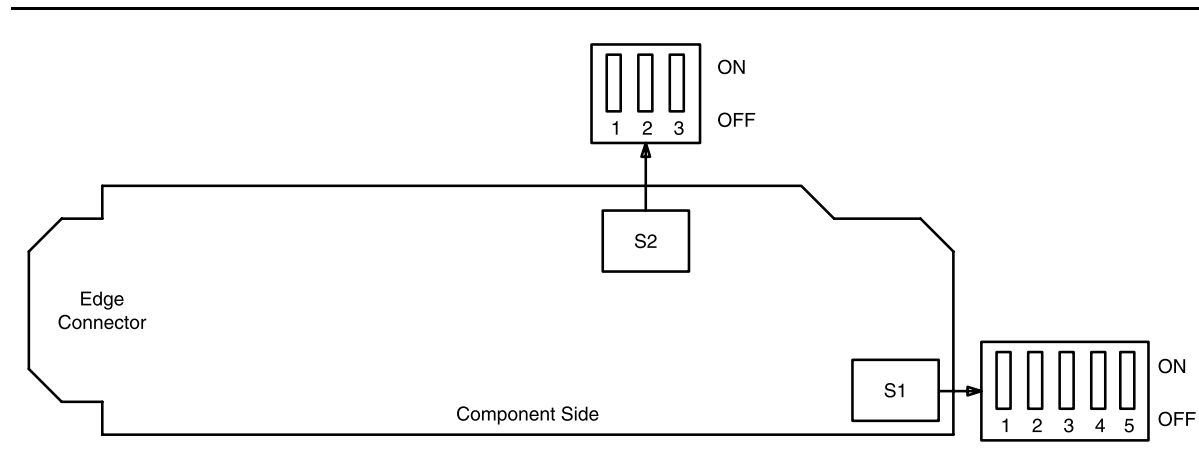

Figure 2 – BBF2B/BBF2C TGS/BBF4 TG3 Option Switch
Determine timing mode from work order or office records. Refer to Table F and Figure 2 and set timing mode as required for **BBF2B/BBF2C TGS** or **BBF4 TG3** circuit pack(s).
14. If the **BBF2B/BBF2C TGS** or **BBF4 TG3** is provisioned for *sync out mode*, refer to Table G and Figure 2 and set equalizer switches for the proper cable length.
16. Refer to Table H and Figure 2 and set the DS1 line coding and frame format as required for the **TGS/TG3** circuit pack.